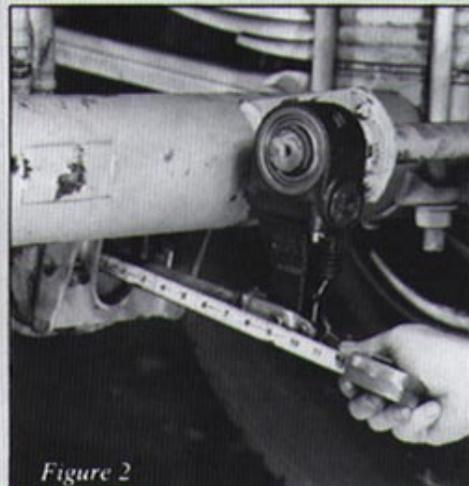

Figure 2
- Again, measure from the face of the brake chamber to the center of the clevis pin (Figure 2).